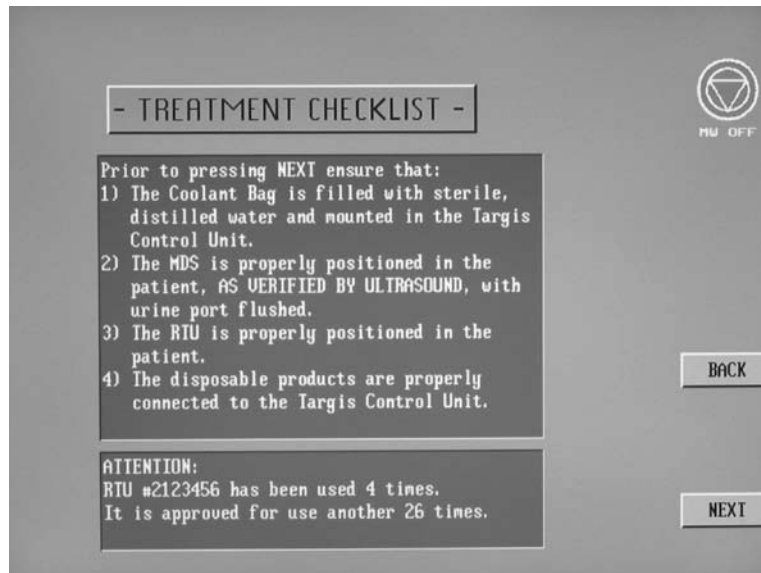

Figure 3-2: Treatment Checklist Screen
Press the NEXT soft key and display the Treatment Checklist Screen (*figure 3-2*).
Please note that when a reusable RTU is being used, the Treatment Checklist screen will display the number of times it has been used, and the number of remaining uses. The reusable RTU Plus should not be used in excess of thirty (30) times. Figure 3-2 displays the Treatment Checklist screen when used with a reusable RTU.
1. Review the Treatment Checklist Screen to ensure that all steps have been taken (*figure 3-2*). If you need to change any patient or product data press the BACK soft key on the Treatment Checklist Screen to return to the previous screen.